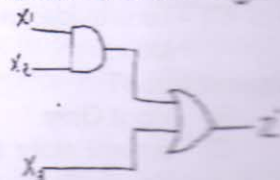

Fig. 2(b)
- b) Using Fault Table method, find the minimum number of test vectors required to verify the circuit shown in Figure 2(b).
Using the Fault table method, find the minimum number of test vectors required to verify the circuit shown in Fig. 2(b).